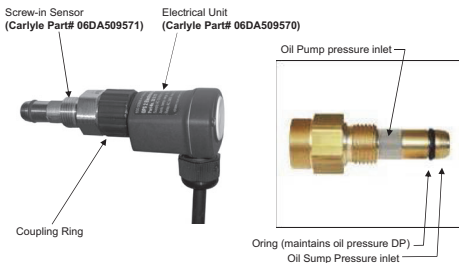

Fig. 17 — Oil Pressure Safety Switch
- The OPSS electrical unit is fastened by a coupling ring to the screw-in sensor and can be removed without opening the oil/refrigeration circuit (not in direct contact with the oil circuit). See Fig. 17.